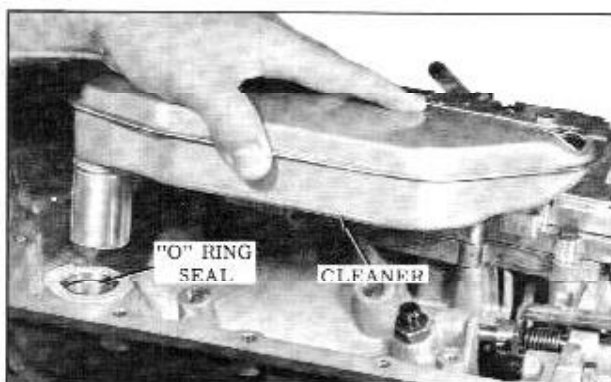

Fig. 3-125 Installing Cleaner
71. Install the cleaner "O" ring into bore in case. (Fig. 3-125)